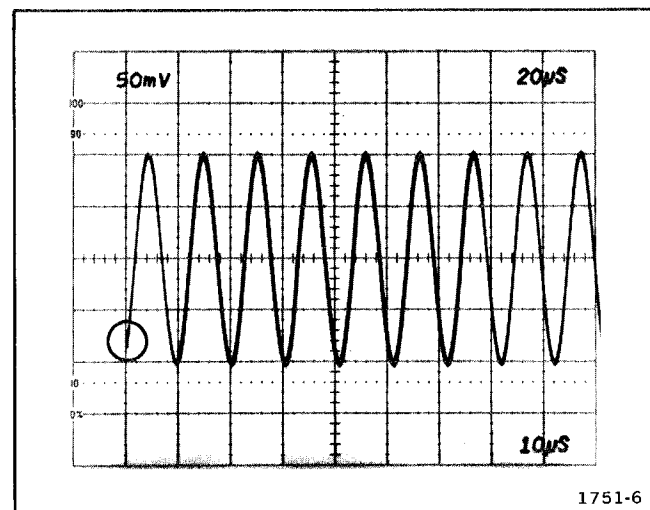

Fig. 5-10. Trigger sensitivity. (Circle denotes correct trigger point.)
a. Adjust—Trig Sens, R125, for a sweep trigger point at approximately 0.5 division from bottom of waveform as MAIN TRIGGERING LEVEL control is rotated through negative (–) portion of its range. See Fig. 5-10 for reference.
a. Adjust—Trig Sens, R325, for a Delayed sweep trigger point at approximately 0.5 division from bottom of waveform as Delayed Triggering LEVEL control is rotated through negative (—) portion of its range. See Fig. 5-10 for reference.